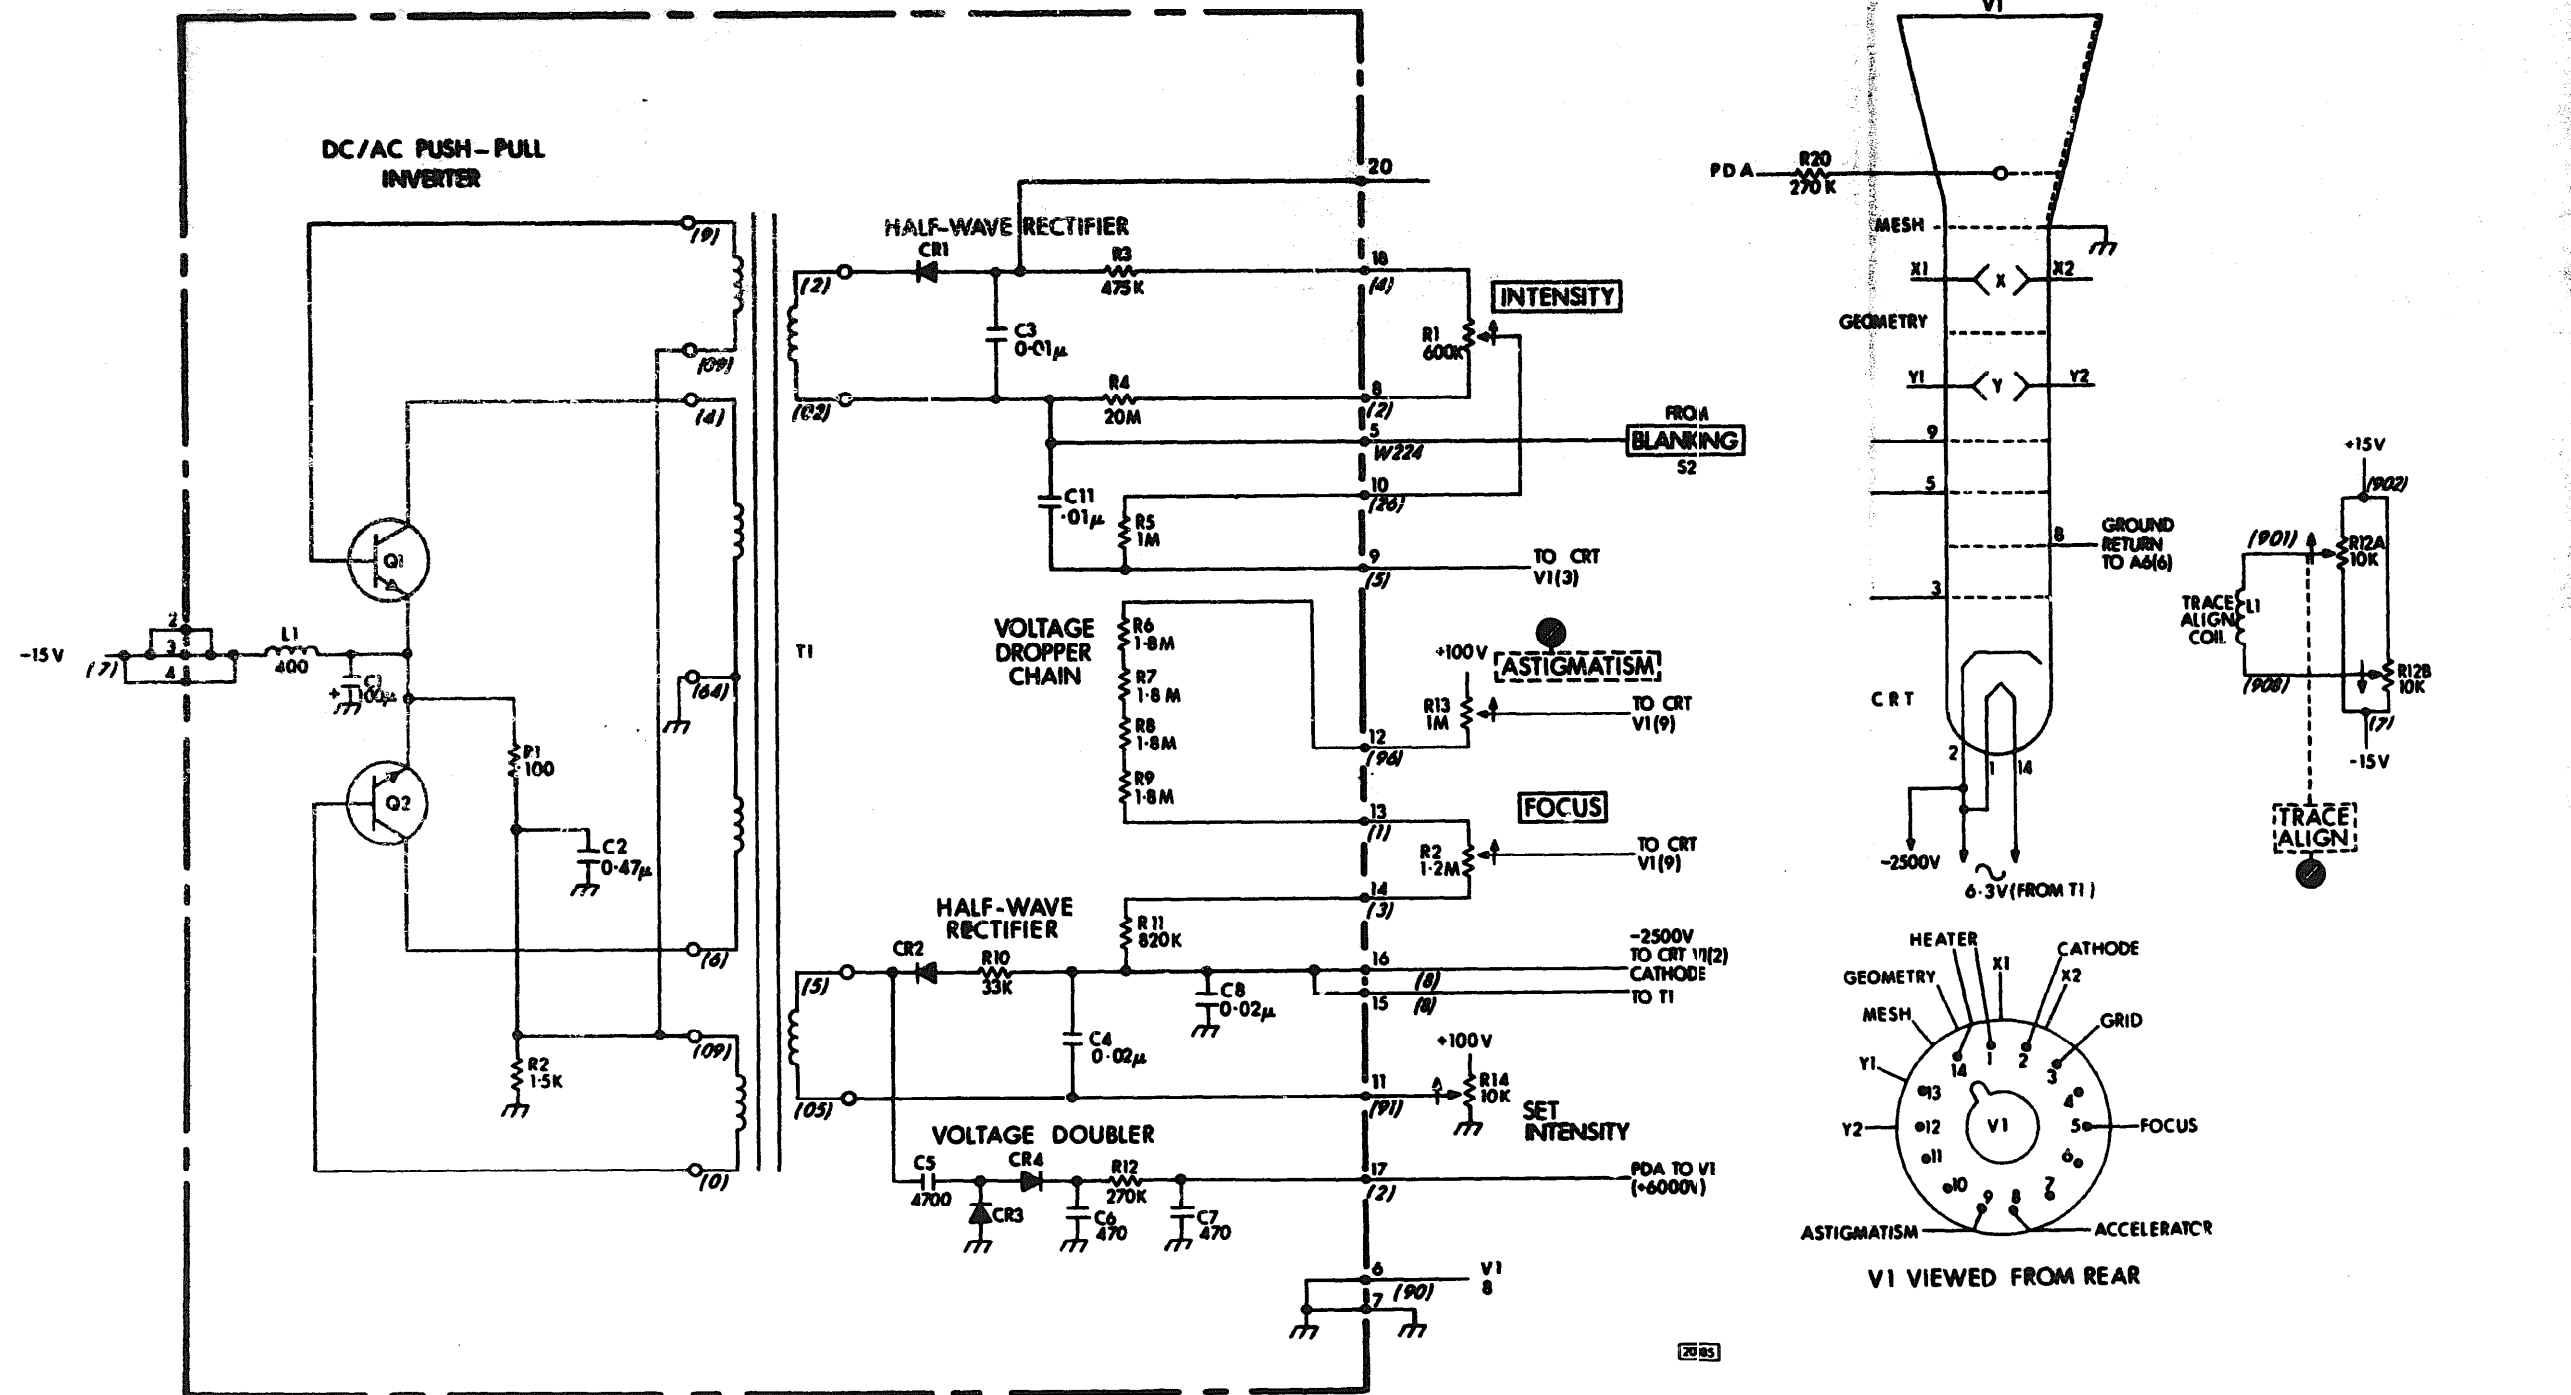

Figure 6-4 Assembly A6
**(see Schematic Diagram, Figure 6-4).**